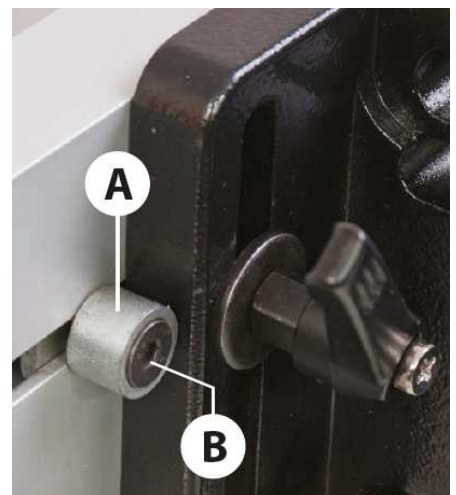

Fig 8
Slide the fence (F) until its stop is up against the tilt assembly housing (E) then tighten the lift and shift handles. Fence Stop (A), Fence stop clamping Hex screw (B) see Fig 8.